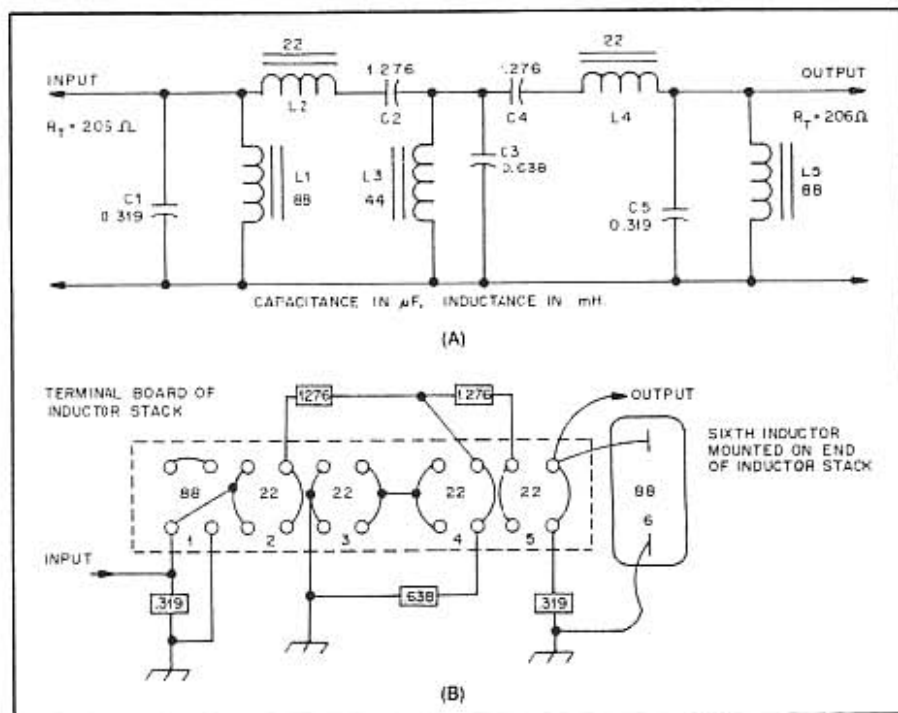
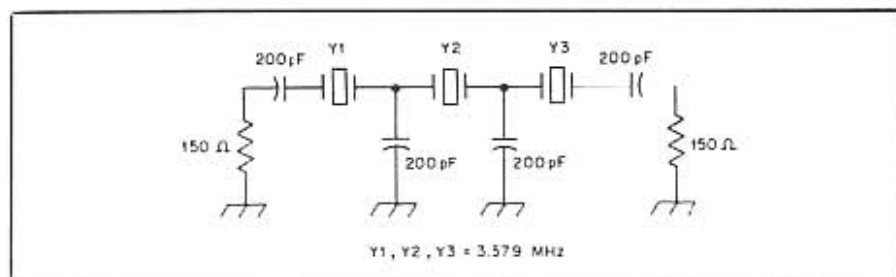
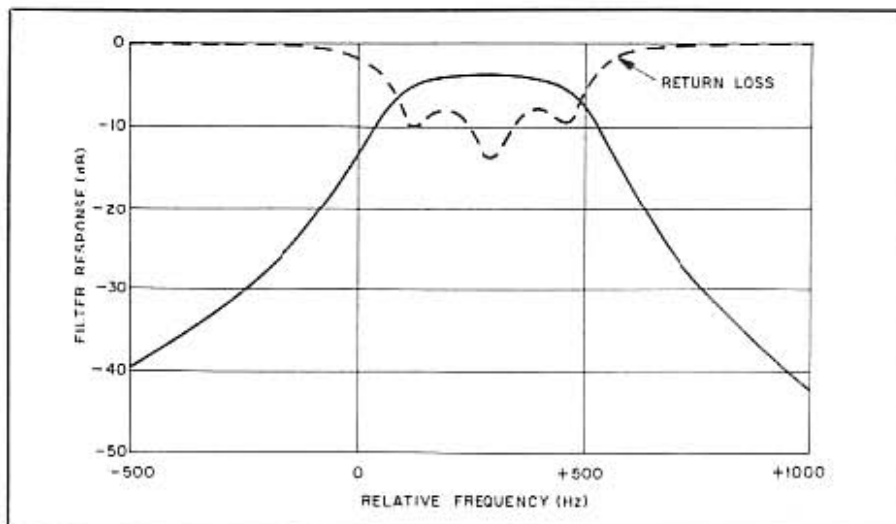

Fig 4—Schematic diagram of the SSB band-pass filter (A). Shown in B is a pictorial wiring diagram of the terminal board on the inductor stack.
Fig 2—A simple CW filter using three crystals.
Fig 3—Frequency response of the filter of Fig 2. The dots show the input return loss, indicating the quality of the impedance match.
Fig 3—The assembled filter is shown installed in a CR-800 aluminum box. The thru/bypass switch (S1) and input/output transformers (T1, T2) are at the left end of the box.
4) Obtain a suitable box and make holes for the inductor mounting clip, the DPDT switch, and the phone jack and phone cord. First, install matching transformers T1 and T2 and the inductor stack with capacitors. Fasten the transformers (with leads pointing up) to the bottom of the box with silicone rubber sealant. Secure the stack to the bottom of the box with a 1-3/8-inch component mounting clip and two no. 6-32 \times 5/16-inch screws. Instead of the 8 \times 3 \times 2 3/4-inch aluminum box shown in Fig 3 (Mouser Stock No. 537-CR-800), a small cardboard box may be used to minimize cost.
While audio filters are most often used during CW reception, the SSB operator can also benefit from their use. Shown in Figs 4 and 5 is a passive band-pass filter designed by Ed Wetherhold, W3NQN, for phone operation. This filter was described in Dec. 1979 *QST*.
A simple and practical filter for a beginner's first CW superheterodyne receiver is shown in Fig 2. Three crystals are used. The capacitors are 200-pF units, a standard value. Experimentation (done here with the computer) shows that a good filter shape is obtained with an end termination of 150 ohms. Fig 3 shows the frequency response of this filter. The -3 dB bandwidth is 403 Hz, and the insertion loss is 3.8 dB. The loss will be lower with better (higher Q) crystals. The impedance match is shown in the figure as a series of dots. This is the return loss normalized to the source impedance—150 ohms for the filter shown.
Fig 4 illustrates the effect of altering the terminating resistance. Fig 4A shows the result of 75-ohm terminations, lower than the desired 150-ohm value. The filter shows some passband ripple and a higher insertion loss. The effect of a 300-ohm termination is shown in Fig 4B, where the peak shape becomes more rounded, with degradation of skirt response. While the poorer frequency domain shape is generally less desirable, the filter with the higher termination has a significantly improved group delay; this filter would be preferred for high-speed data applications.
Fig 4—Frequency response of the filter of Fig 2 with changes in the end terminations. Curve A shows response with 150-ohm terminations; curve B shows the response using 300-ohm resistors. See the text for considerations of which is "better."